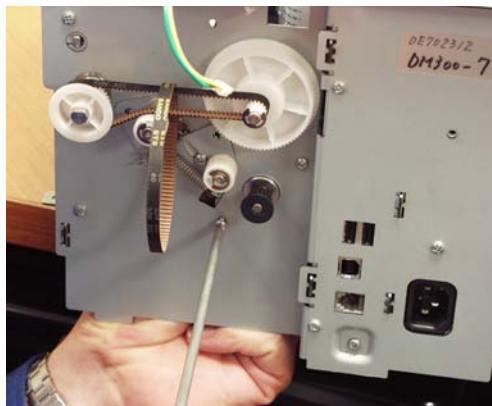

Figure 5-22 Remove Two Motor Mounting Screws
6. Hold motor from underside of machine. While holding motor, remove two screws as shown to free it (Figure 5-22).